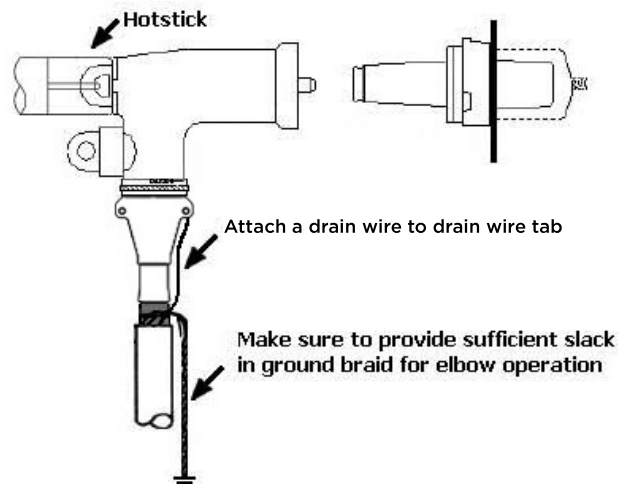

Fig. 10 - Ground Elbow
- D. Attach a #14 AWG copper wire (or equivalent) to the drain wire tab of the elbow. Twist the wire at least two turns. Attach the free end to system ground. See Figure 10.
- E. Twist neutral wires into a braid and connect to ground with appropriate connector. Make sure to provide sufficient slack in ground braid for elbow operation. See Figure 10.